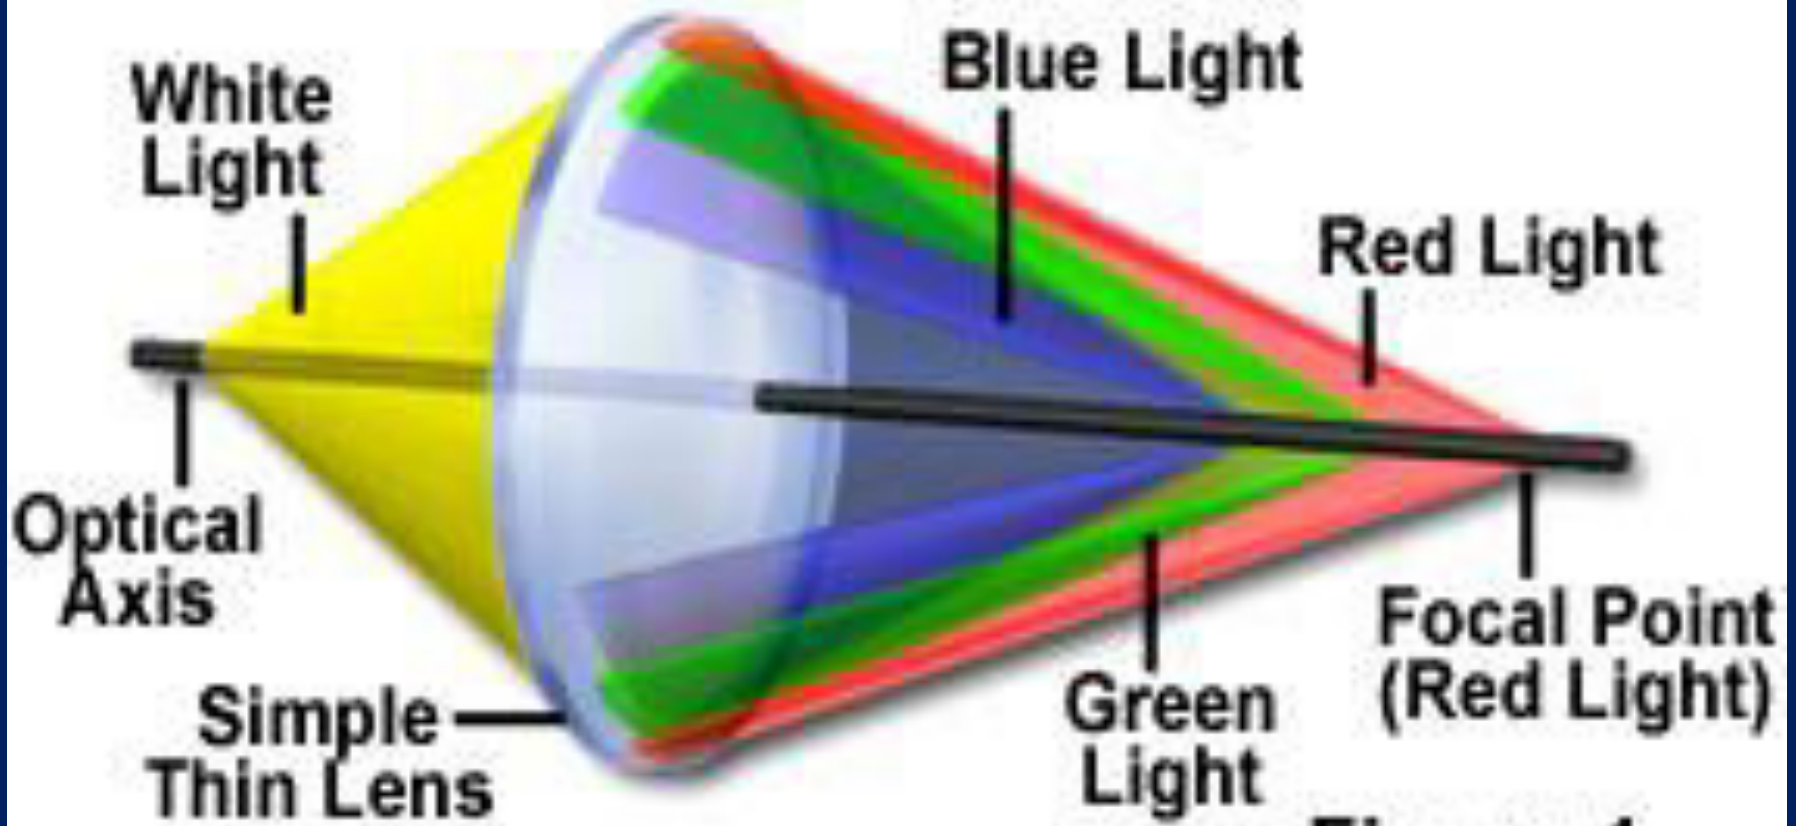

Figure 1
- **As shown in Figure 1, when light rays L0-L3 bounce off the object P under a coverglass, they are each refracted within the coverglass before entering the objective. From the perspective of the objective, it will appear as though each of these light rays is coming from a different point. Even L0, with the smallest numerical aperture, appears as though it is coming from a point other than P. This is why objects with glass over them appear closer to the naked eye, with the depth of P0 equivalent to thickness (d) divided by refraction index (n). Deviations from this position become spherical aberrations.**